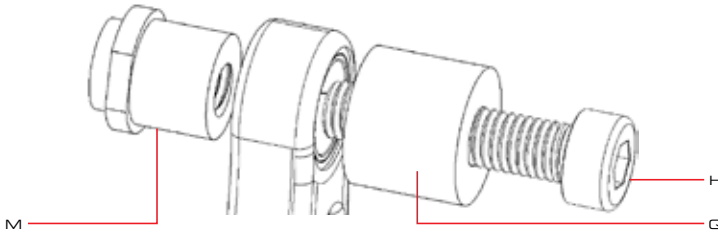

Fig.5
3. Place the links on your bench and assemble the DU bushing removal tools as shown in Fig. 5. Use an Allen wrench and open wrench to draw the DU Bushings out of the back of the links.